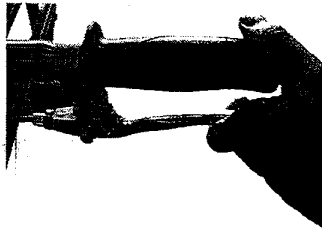

Figure 21
Step 3: Simply lift the brake slightly to de-activate the brake stopper (*Figure 21*).
Simply lift the brake handle to brake the wheelbarrow (*Figure 21*). Please refer to the "Install the Battery" section on how to stop the wheelbarrow using the stopper when you are on a slope or any other situations where you need to stop the wheelbarrow and be away.